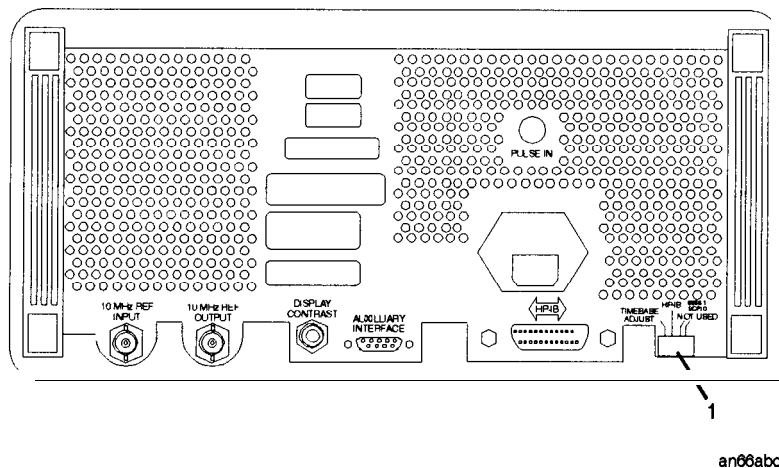

Figure 7-2. Timebase Adjust Switch Location
2. Set the rear-panel TIMEBASE ADJUST switch (shown in Figure 7-2) to on (1).